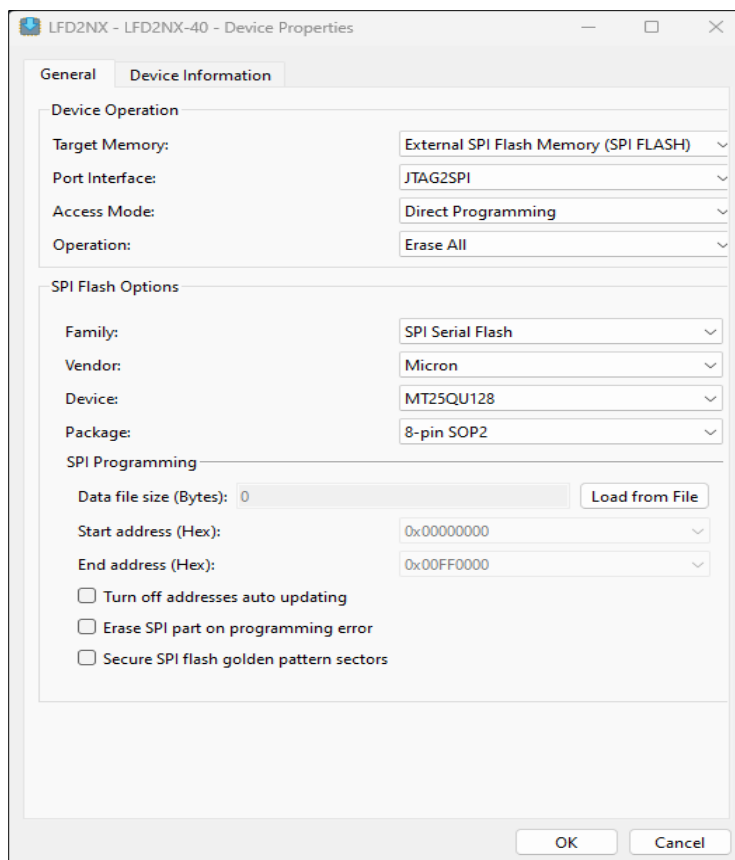

Figure 6.12. Device Properties to Erase the Micron SPI Flash
- Before programming, you need to erase the entire SPI Flash Memory by applying the settings as shown in Figure 6.12.